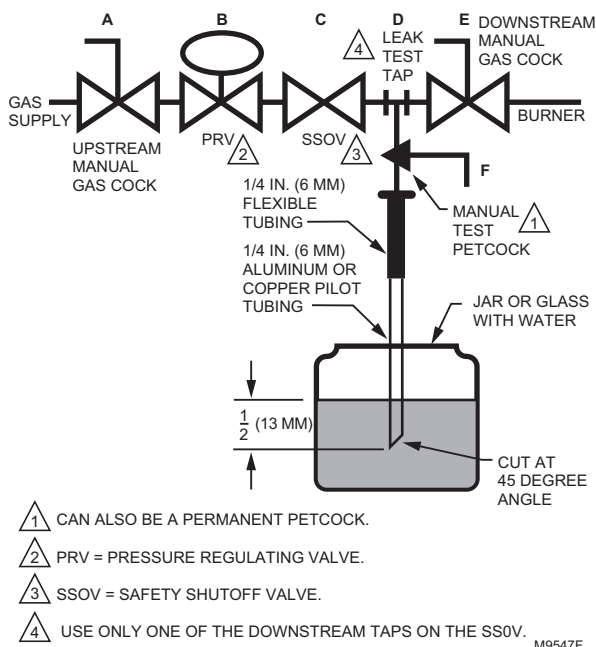

Fig. 7. Valve leak test.
Valve Leak Test (Fig. 7)
1. De-energize the control system to assure that there is no power to the safety shutoff valve (C) shown in Fig. 7.
2. Close the upstream manual gas cock (A).
3. Make sure the manual test petcock (F) is closed in the leak test tap assembly (D).
4. Remove the leak test tap plug and connect the test apparatus to the Leak Tap (D).
5. Close the downstream manual gas cock (E).
6. Open the upstream manual gas cock (A).
7. Run the safety shutoff valve (C) to its fully open position (through the safety system); then immediately de-energize the system to close the valve.
9. Slowly open the test petcock (F).